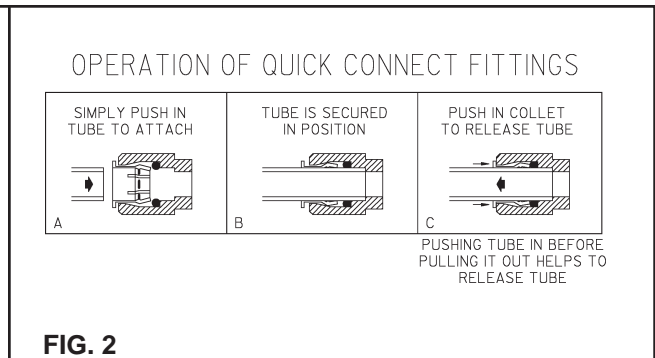

FIG. 2
- 7. Make water supply connections** from service stop to the fountain strainer. Insert the water inlet line into the inlet side of strainer until it reaches a positive stop - about 3/4" (See Fig. 2). Turn on water supply and check for leaks. Newly installed water supply line should be insulated after leak check is completed. **DO NOT SOLDER TUBES INSERTED INTO THE STRAINER AS DAMAGE TO THE O-RINGS MAY RESULT.**
- 3. Actuation of Quick Connect Water Fittings:** Cooler is provided with lead-free connectors which utilize an o-ring water seal. To remove tubing from the fitting, relieve water pressure, push in on the gray collar while pulling on the tubing (See Fig. 2). To insert tubing, push tube straight into the fitting until it reaches a positive stop, approximately 3/4".